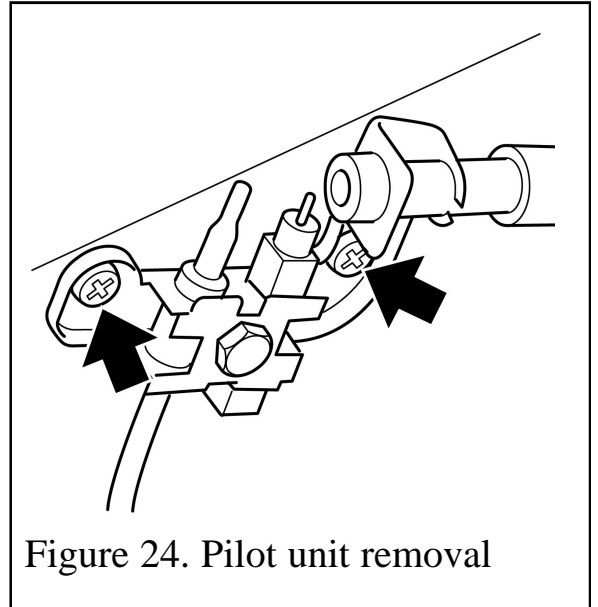

Figure 24. Pilot unit removal
5. Remove the two screws securing the pilot unit (See figure 24).